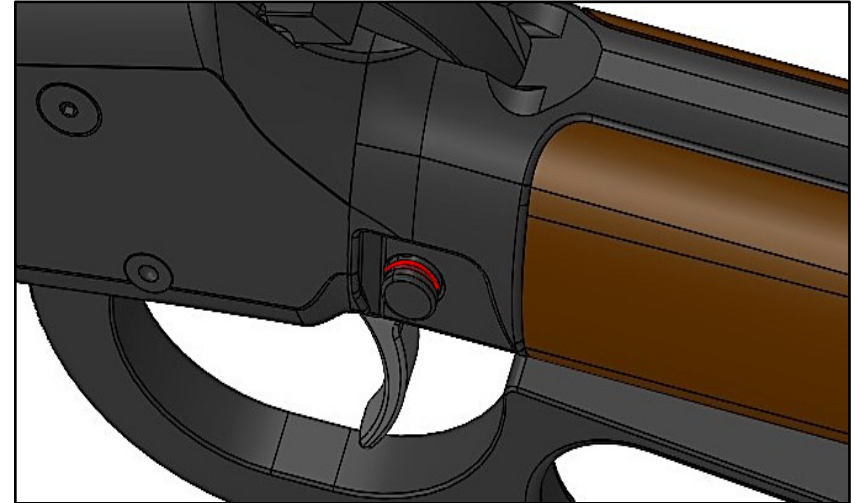

FIGURE 10
2. Pull the firearm STOCK firmly into your shoulder. After confirming your target and a safe backstop, move the safety to the SAFETY OFF– READY TO FIRE position - FIGURE 10.